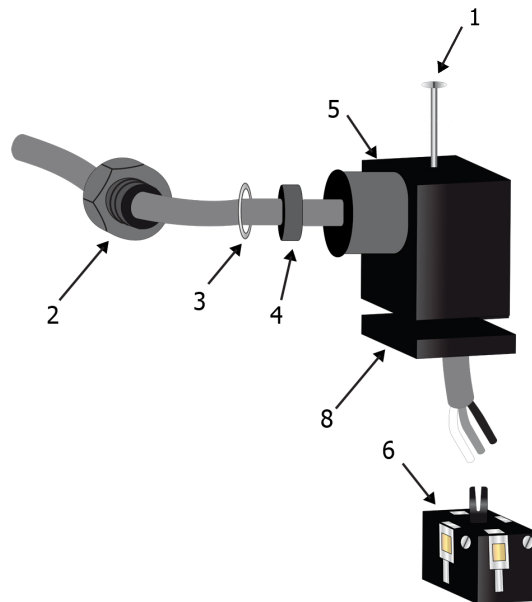

Figure 17 *Pressure Transmitter Connector*
- b. When the connector is unplugged from the transmitter, remove the central screw (1) (*Figure 17*) completely.
- c. Remove the gasket (8) (*Figure 17*) from the connector.
- e. Ensure that the outer diameter of the cable selected matches the outer housing's cable gland. To ensure that full ingress protection is achieved, the sensor cable used must have a minimum diameter of 4.6 mm (0.18"). Slide the cable through the cable gland nut (2), washer (3), gland seal (4) and outer housing (5) (*Figure 17*).
- f. Apply crimps/wire ferrules to the flying leads of the cable. Connect these leads to the screw terminals on the terminal block (6) in accordance with the following pin-assignment drawing. Pin designations are marked adjacent to each pin.
- h. Tighten the cable gland (2) (*Figure 17*) around the cable. Ensure that the sealing is not damaged and that the cable gland and seals are assembled correctly in order to ensure ingress protection.
- i. Slide the terminal block (6) onto the connection pins on the transmitter.